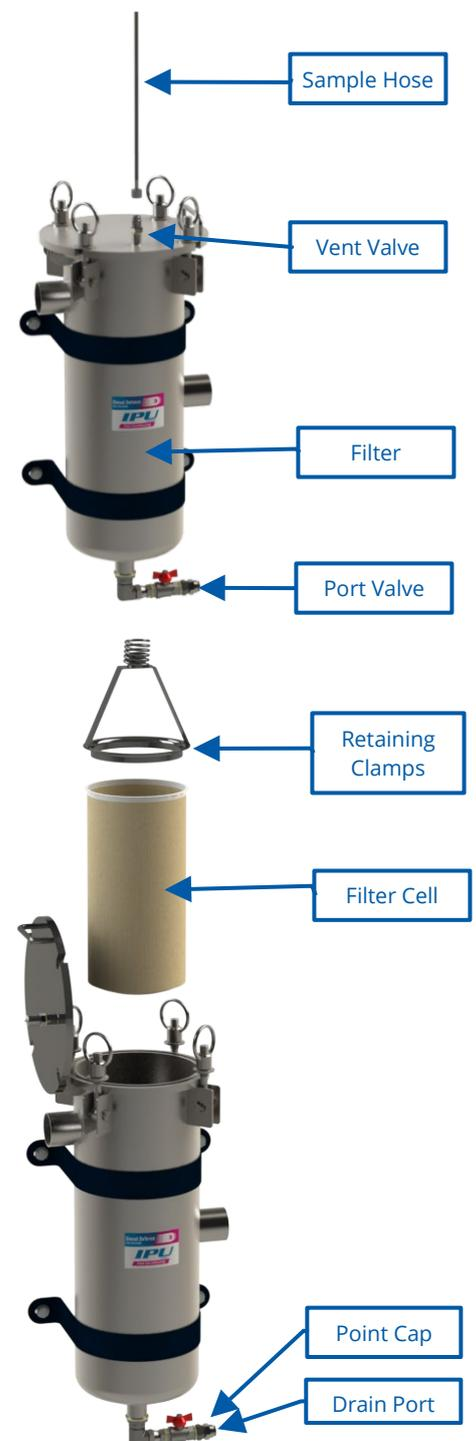

Fig 1.
- Secure the filter lid using the filter housing clamp ring – see Fig 1 below, for the alignment